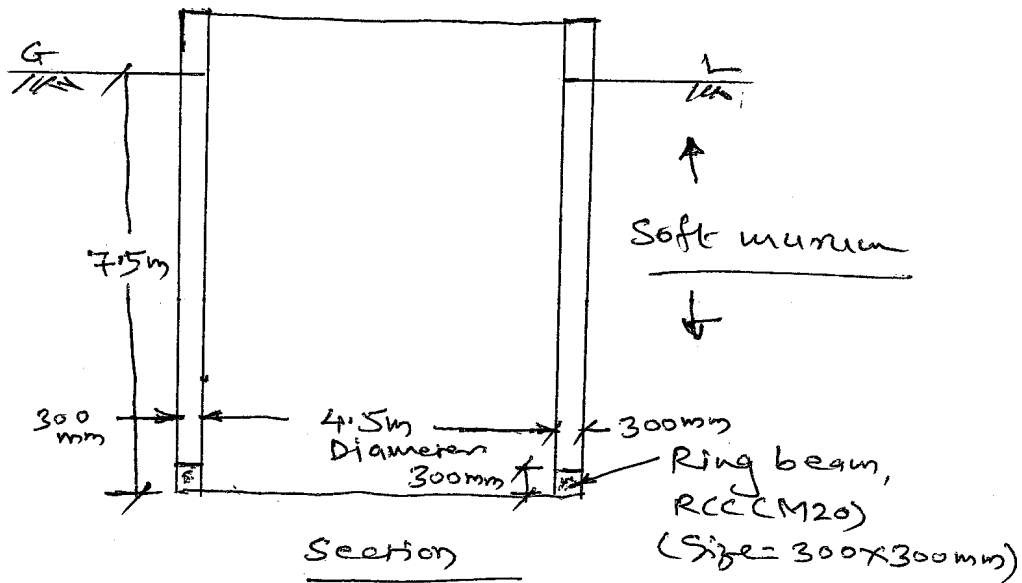

Fig. No. 3 (Q. No. 3 e)
- e) Calculate the quantities of following items of work for a circular community well as shown in Figure No. 3 :